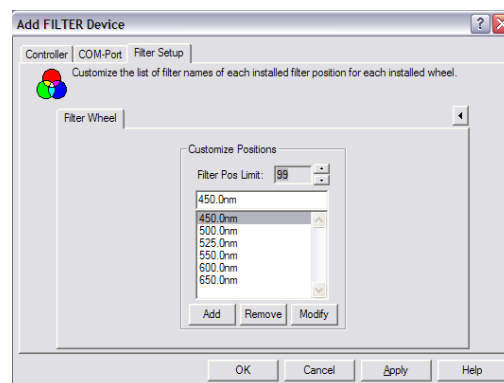

fig.3
2. Switch between saved wavelengths (**fig.3**).